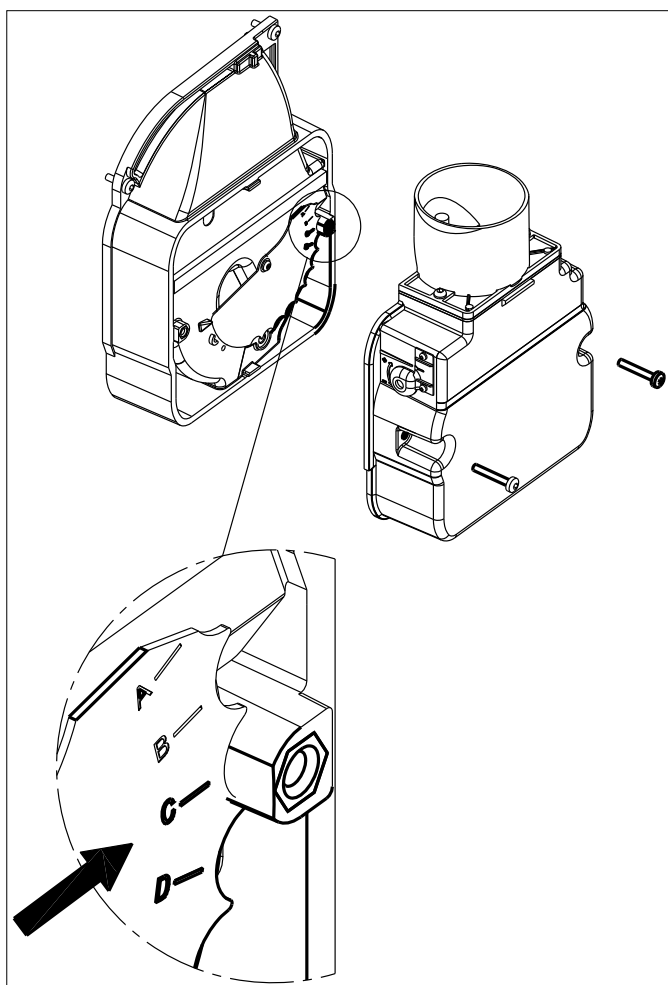

Figure 10-6: Air adjuster disc
Refer to Figure 10-6.
4. The air adjuster disc is mounted on the fan housing. Refer to Figure 10.6.